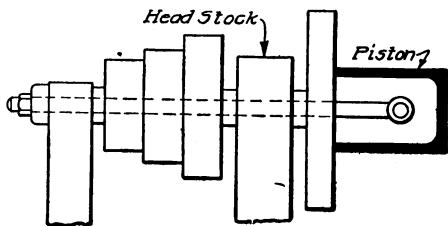

Fig. 52. Rigging for Holding Piston against Face Plate of Lathe
**Mounting Pistons on Lathes.** It is difficult to handle a piston in the lathe, or machine the outside in any manner, as a chuck does not get enough of a hold on it, and is likely to mark the surface. When work on it is necessary, the piston can be handled effectively by using a small rod with an eye at one end. This is made to fit the piston pin in the case of an old piston. The rod is run through the hollow spindle and bolted at the outer end. The tightening of the nut on it pulls the piston up against the face plate as Fig. 52 shows. This same method can be used when making a new piston. In the latter case, it is held in the chuck to finish the outside and inside, then the wrist-pin hole is drilled, bored, and reamed, and the wrist pin fitted. Finally, the finishing cut, or grinding of the outside, is completed.